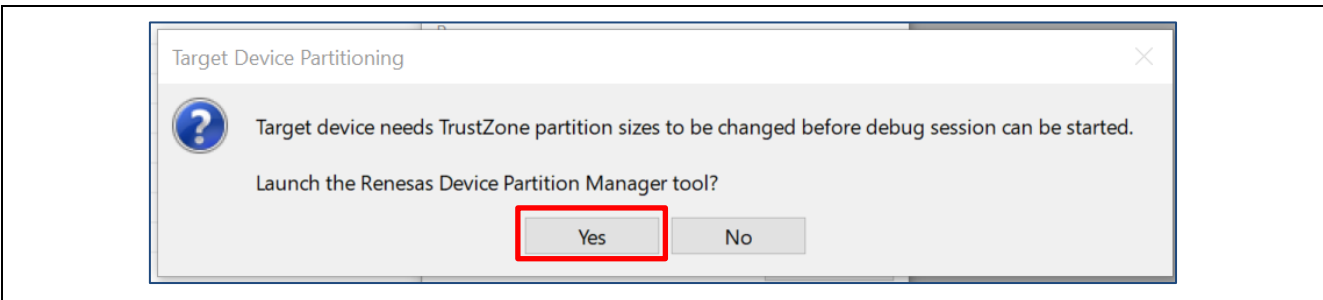

Figure 80. Select Launch RDPM
4. If the current MCU TrustZone boundary differs from the boundary calculated from the Secure project, the window shown in Figure 80 will appear, prompting you to set up the TrustZone boundary.